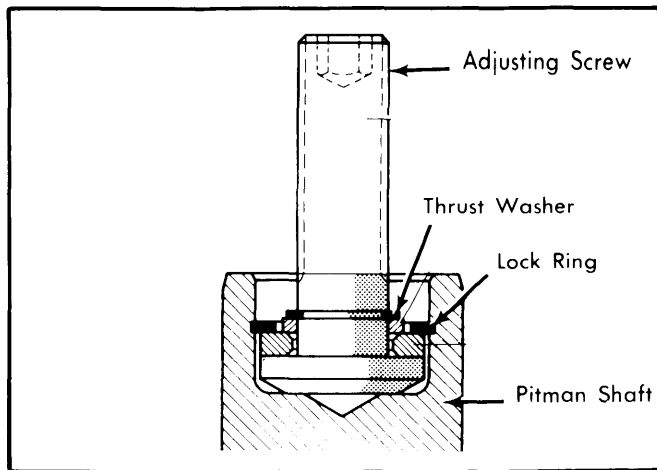

Fig. 5 Sectional View of Adjusting Screw
7) Unscrew slotted nut, using hook wrench, from bearing insert. See Fig. 5.